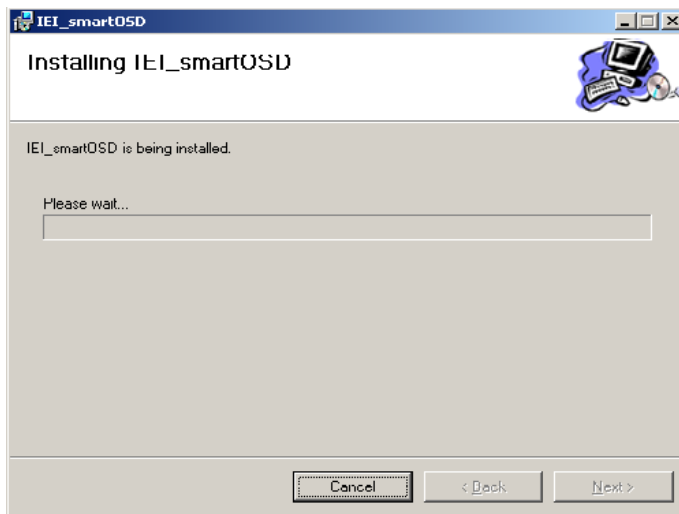

Figure C-5: smartOSD Installation Progress
Step 10: The program starts to install and the progress bar shown in Figure C-5 appears.